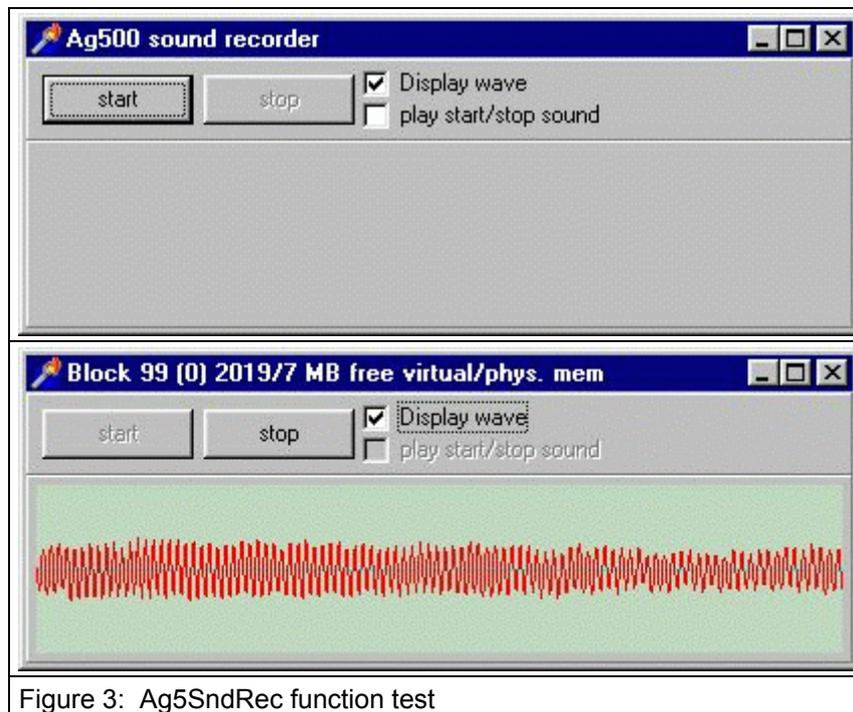

Figure 3: Ag5SndRec function test
- on starting Ag5SndRec you'll see fig 3 (upper picture)
- the program comes up with a window shown in fig.3 (upper picture)